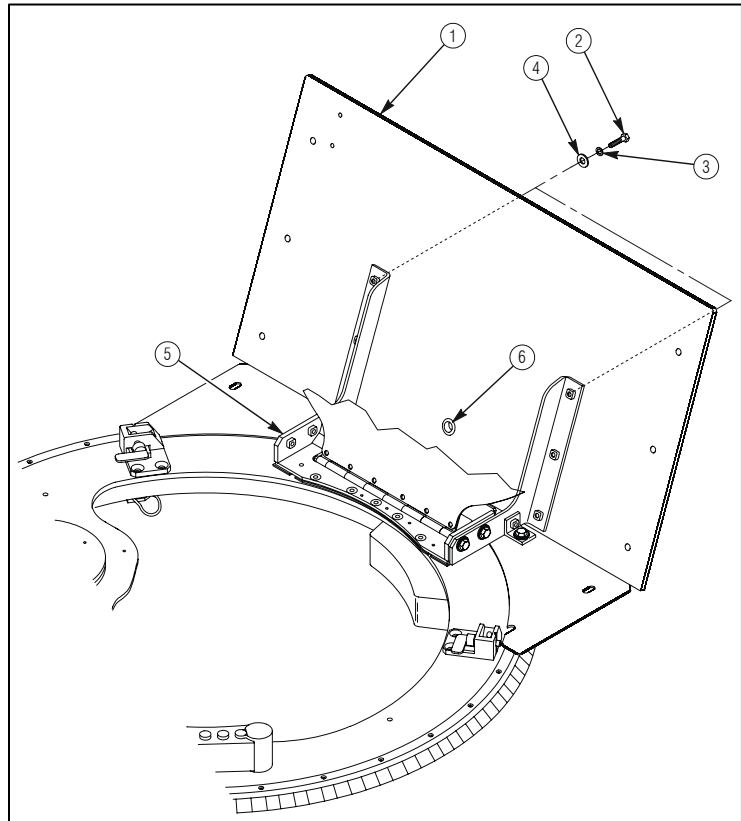

*Figure 4*
3. Attach hatch cradle/base plate assembly (2) to top of turret ring (5). Secure using five 6431753 countersink bolts (1), five 4397005-014 washers (3) and five 4397064-005 locknuts (4) as shown in figure 4. Tighten five countersink bolts (1) to 37 lb-ft (50 N·m).